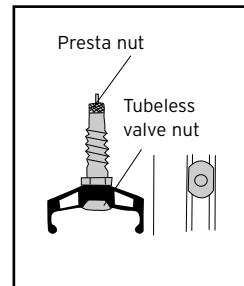
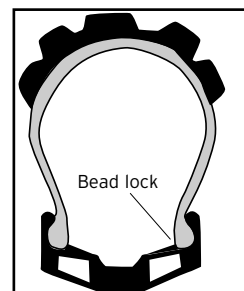

Fig. 41
Fig. 43
2. Align the base of the special tubeless valve with the rim (Fig. 41). Press the valve stem through the rim strip and rim until its seated firmly against the bottom of the rim well.
3. Install the tubeless valve nut (Fig. 41) onto the the valve, and tighten firmly. There should be no gap between the valve and the rim strip.
1. Begin to inflate the tire. The tubeless valve stem works just like a standard presta valve. Unlock the presta nut (Fig. 41), and use a pump with a presta fitting. Initially, its best to inflate the tubeless tire as rapidly as possible. This forces the beads out to the rim hook where they will seal (Fig. 43).
2. With the tire beads sealed to the rim hook, inflate the tire to about 60PSI (4 ATM) until the tire beads lock into the rim well (Fig. 43).
3. Visually check that the beads are seated correctly in their locked position (Fig. 43). Most tires have lines or marks running around the casing, just above the bead. When correctly installed, these lines are at an even distance from the rim. When the beads are correctly seated all around the rim, inflate (or deflate) to the desired pressure.